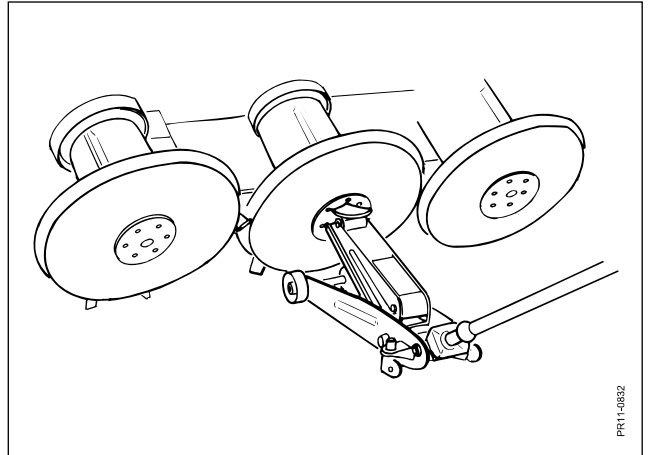

Fig. 5-4
- Fig. 5-4** Place the jack under one of the bolts at the bottom of one of the middle rotors and lift the machine carefully